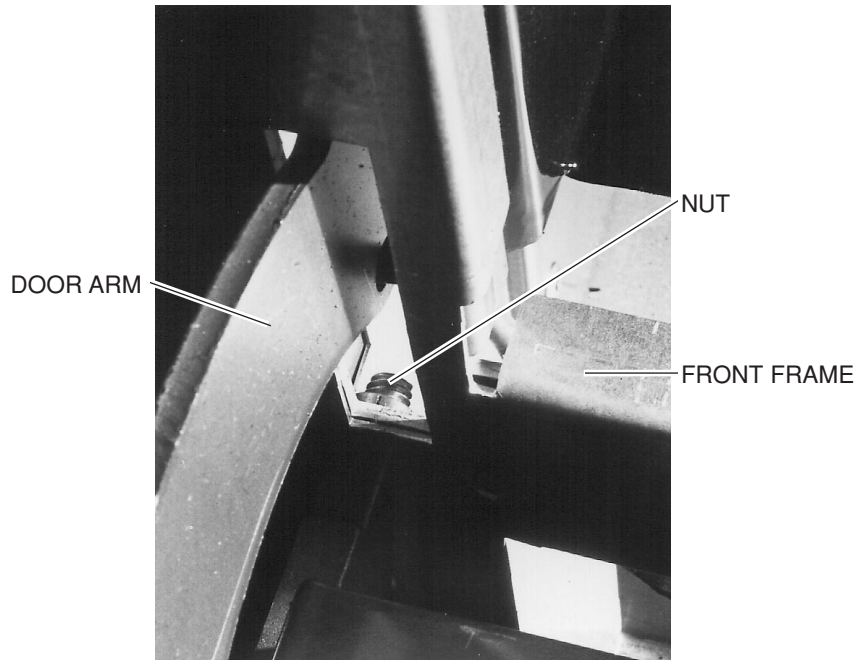

Fig. 46
4. From inside the oven cavity, located behind the front frame where the door is mounted, using a $\frac{7}{16}$ " socket, remove (2) nuts holding the door assembly to the trunnion block (1) on the left door side and (1) on the right. (Fig. 46)